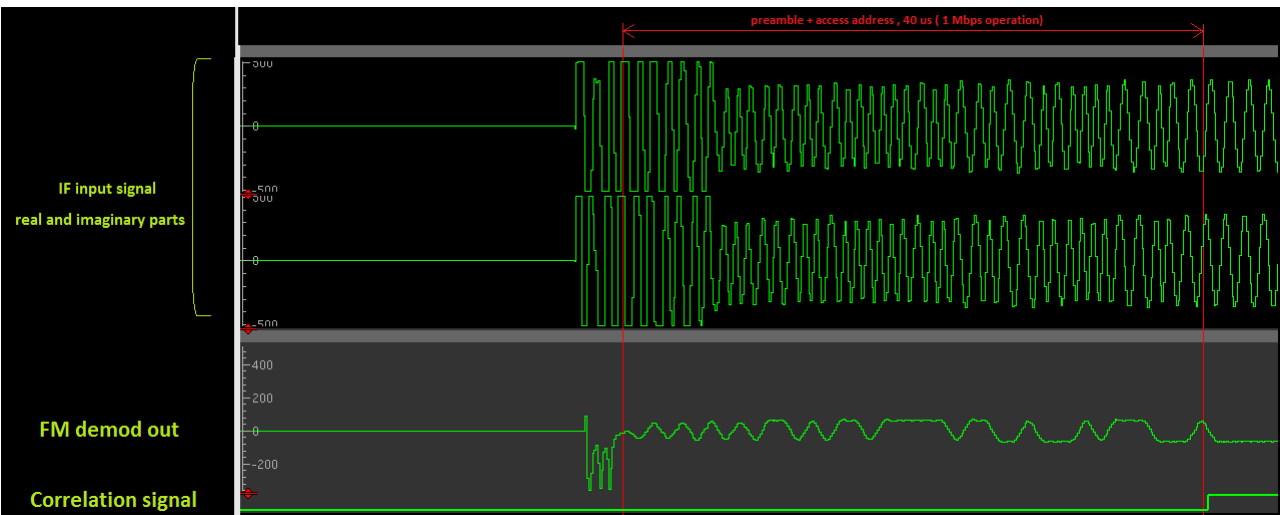

Fig 138. Burst detector
- The preamble and the access address (known and given by the link layer) are correlated to the FM-demodulated signal (see Figure 138 “Burst detector”).